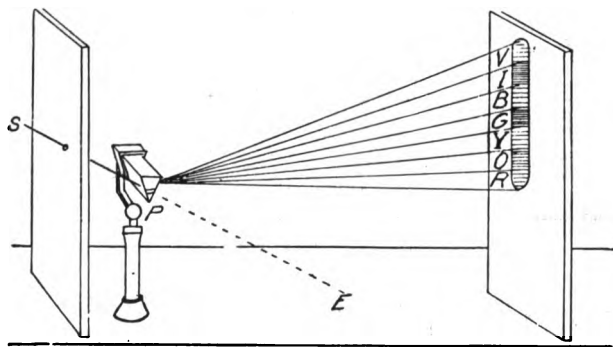

FIG. 115
**134. Color.** In our study of refraction thus far we have only considered the fact that a ray of light passing from one medium to another is refracted. In reality something more has happened. If we allow a ray of sunlight to pass through a prism and place a white screen in the path of the refracted ray, a band of light of several colors appears upon the screen (Fig. 115). This band of colors is similar to that we see in the rainbow,